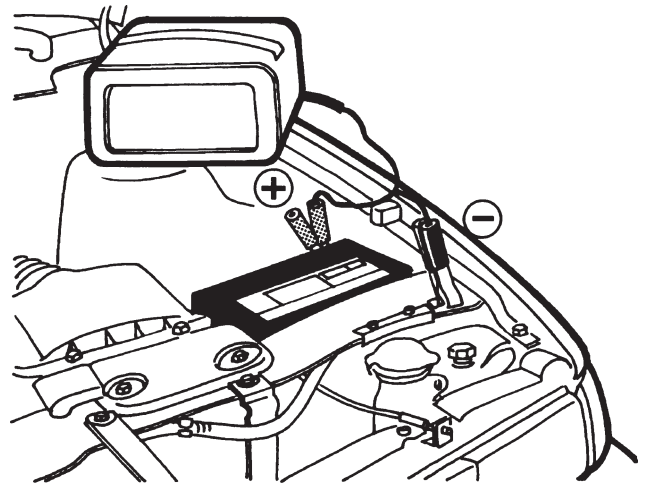

FIGURE 7: CONNECTION TO NEGATIVE-GROUNDED BATTERY
5. For a negative-grounded vehicle, connect POSITIVE (RED) clamp from battery charger to POSITIVE (POS, P,+) ungrounded post of battery. Connect NEGATIVE (BLACK) clamp to vehicle chassis or engine block away from battery. Do not connect clamp to carburetor, fuel lines, or sheet-metal body parts. Connect to a heavy-gauge, unpainted metal part of the frame or engine block (see Figure 7).